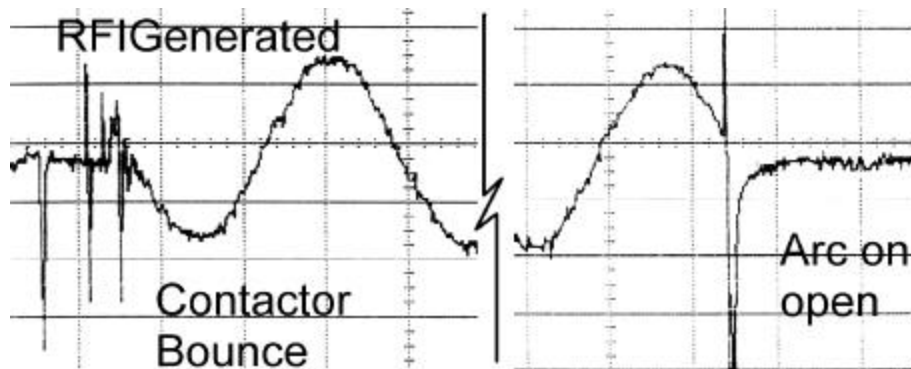

Figure 6: Note the line noise created by the chatter of a closing contactor. If a contactor opens at a non-zero point, an arc will likely occur.
One major problem with contactors is that they can turn on or off at any point in the sinusoidal wave. If the contactor shuts off when the voltage is not at the zero point an arc will occur. This arc will create radio frequency interference (RFI). RFI creates noise on the line voltage and causes problems with sensitive electronic equipment. Figure 6 shows an actual oscilloscope picture of the arc that occurs on the open and close of a contactor.
3. Does not cause line distortion. Figure 6 shows the distortion that can be produced on the line side of a mechanical device.